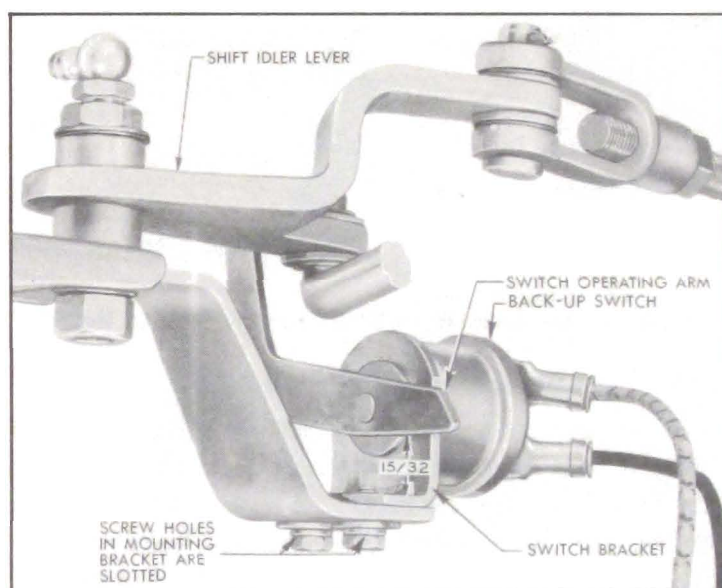

Figure 11-37—Adjustment of Back-Up Switch—Dynaflow Drive
3. Move switch up or down on mounting bracket to obtain $15/32''$ clearance between upper end of switch operating lever and nearest edge of switch bracket. Mounting screw holes are slotted to permit this adjustment. Tighten mounting screws securely. See figure 11-37.